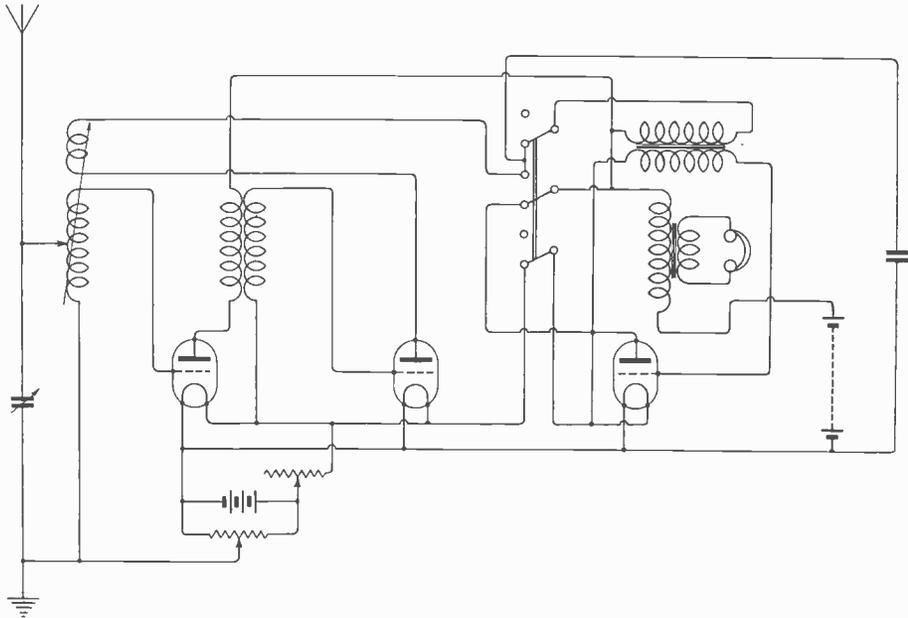

Fig. 4.
**A.C.H. (Smethwick)** asks (1) For a circuit diagram to cover certain alterations to his set. (2) What is the station with call letters P.J.
- (1) See diagram Fig. 4.
(2) Not known.
**RADIO (Cardiff) asks** (1) *If a 2-valve set connections are correct.* (2) *If a grid potentiometer will be of any advantage.* (3) *If he will hear PCGG.*